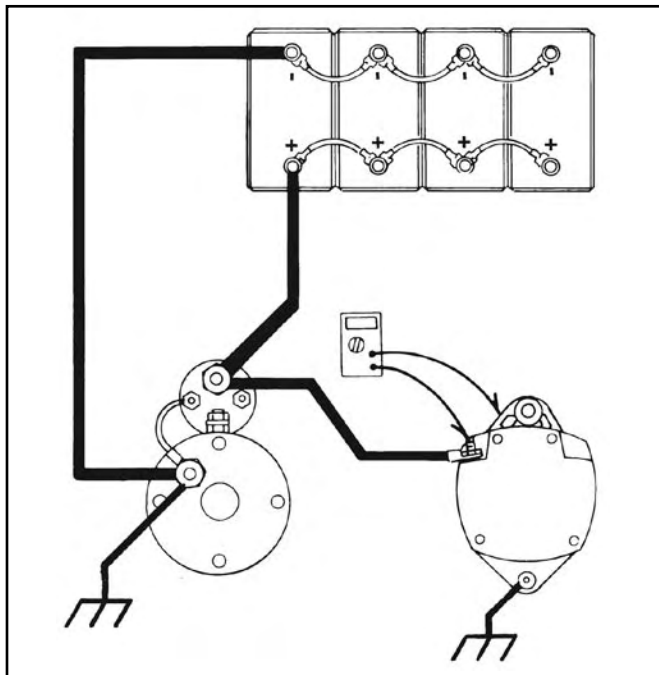

Figure 18. Voltage Output Test Setup
2. To test alternator voltage output (Figure 18):